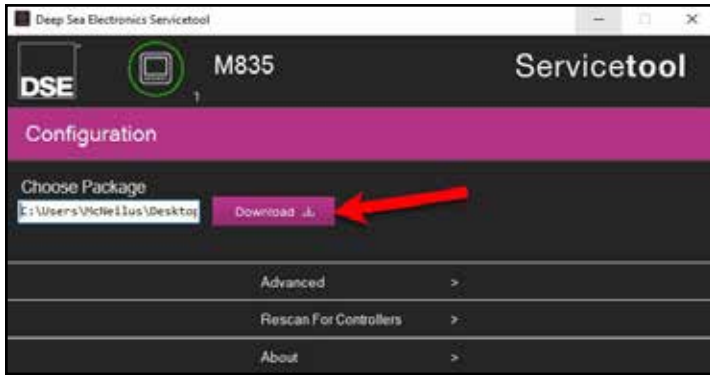

Figure 8
8. Select download to initiate the downloading process (Figure 8).